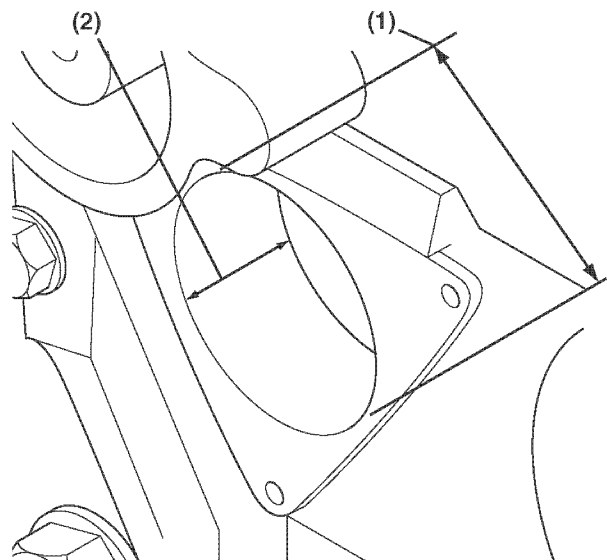

Figure 6-75
10. Measure the cavity inside diameter (**Figure 6-75, (1)**). Measure in at least two directions 90° apart. Record the measurements.
11. Measure the cavity depth (**Figure 6-75, (2)**) using a depth micrometer. Record the measurement.